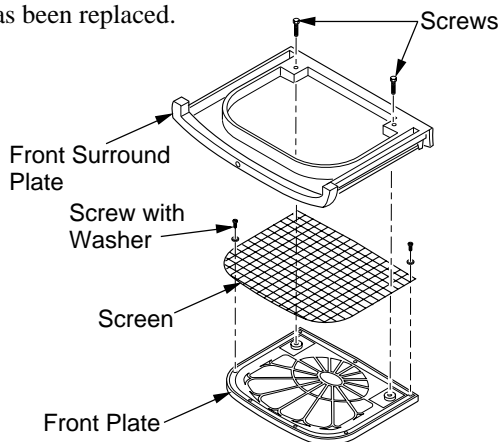

Figure 14 - Removing Screen from Front Assembly
14. Lay the front panel assembly face down on a protected surface. Remove the two screws that hold the front plate onto the front surround plate (see Figure 14). Save these screws.
15. Remove the seven screws and washers that hold the screen onto the front surround plate. Discard these screws, washers, and screen. They are for vent-free use only (see Figure 14).